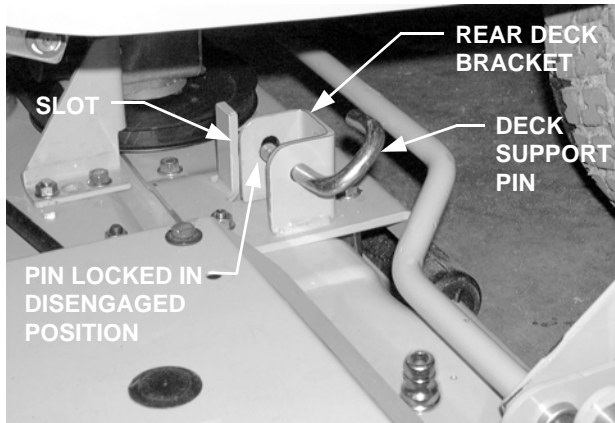

Figure 9
- Slide the deck under the tractor until the slots of the LH and RH rear deck brackets align approximately with the tractor lift links (See Figure 9).
- Pull outward and cock the deck support pins in the rear deck brackets so that both spring-loaded pins are held in the disengaged position against the inner surface of the deck brackets (See Figure 9).
- Pull outward and cock the deck support pins in the deck hanger brackets so that both spring-loaded pins are held in the disengaged position against the inner surface of the deck brackets (See Figure 9).